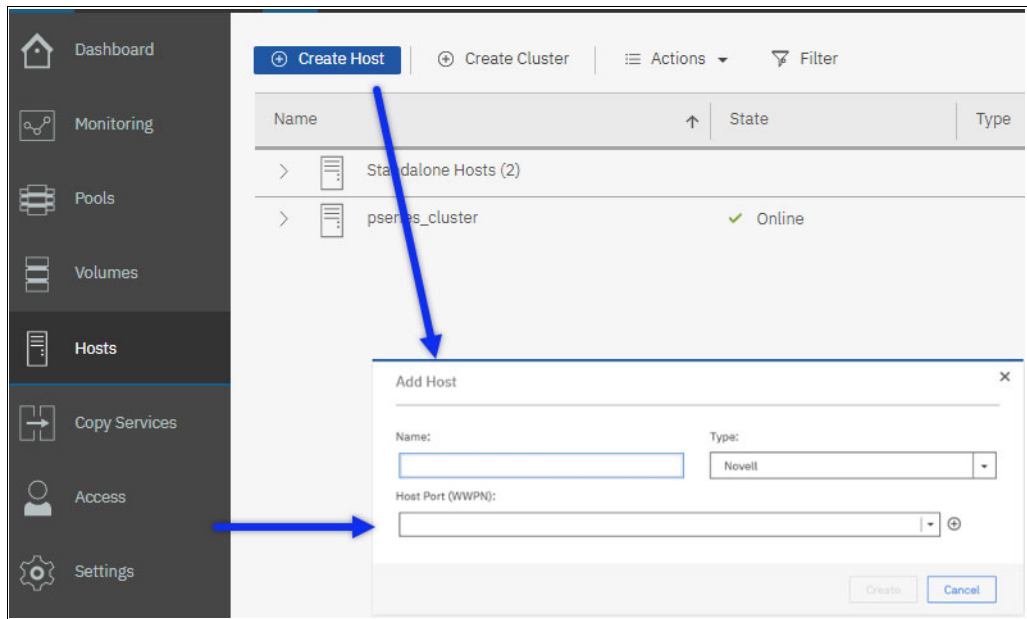
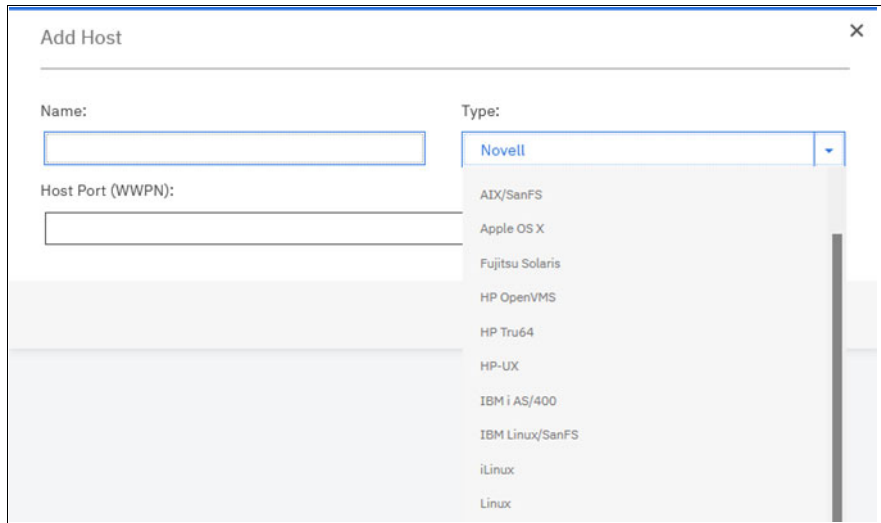

Figure 9-56 Create Host
Figure 9-57 Add Host window - host type - partial list
4. In the Hosts window, click **Create Host**, as shown in Figure 9-56.
5. The Add Hosts window opens (Figure 9-57 on page 268). Specify the following items:
- Type. The operating system (OS) of the host to add.
- Host port (WWPN). Optionally, provide the WWPN of the host port. If the host port logged in to the system, it can be selected from the Host Port (WWPN) list as shown in Figure 9-56.